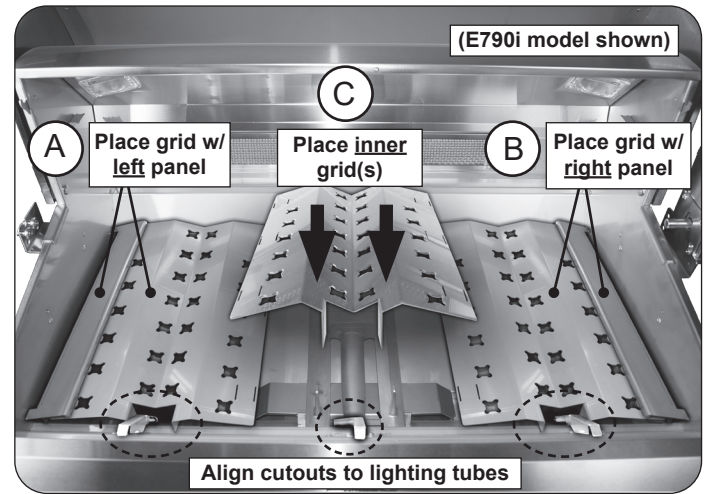

Fig. 32-1 Install flavor grids
1. Locate the flavor grid with the pre-attached **left panel** (see Fig. 32-1, A).
2. Carefully rest the grid onto the rear and front flavor grid rests while ensuring the flavor grid cutout clears the left-most lighting tube. See Fig. 32-1, A.
3. Locate the flavor grid with the pre-attached **right panel** and place it on the right side of the grill (see Fig. 32-1, B).
4. Take the inner grid(s) and install between the left and right flavor grids (see Fig. 32-1, C).